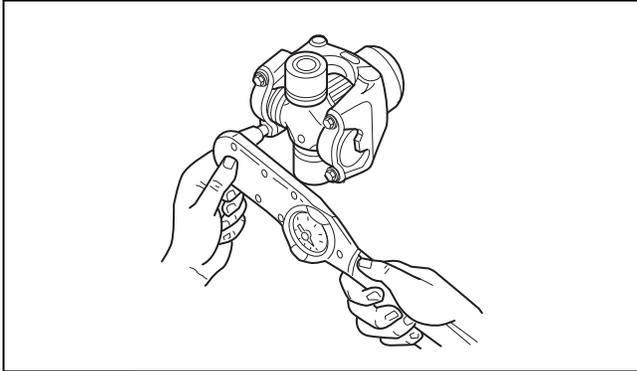

Figure 8.30
4. Use a torque wrench to alternately tighten the capscrews to Meritor’s driveline torque specification. Figure 8.30. **ⓘ**